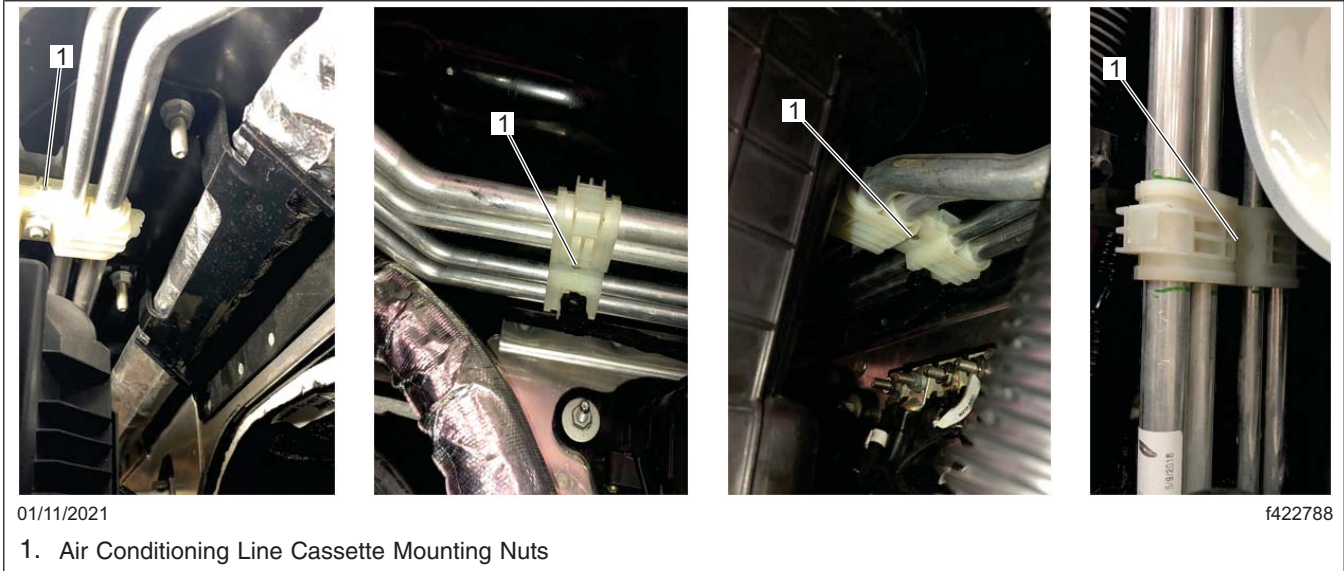
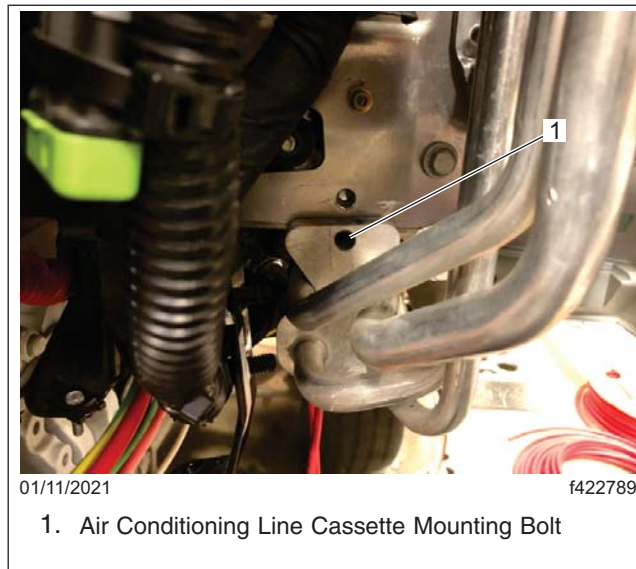

Fig. 4, Air Conditioning Line Cassette Mounting Nut Locations
Fig. 5, Air Conditioning Line Cassette Mounting Bolt Location
- Remove the mounting nuts that attach the air conditioning cassette lines to the underside of the engine tunnel. See Fig 4 and Fig. 5. This will allow the air conditioning cassette and air line mounting bracket to be lowered so the airline bundle can be removed.